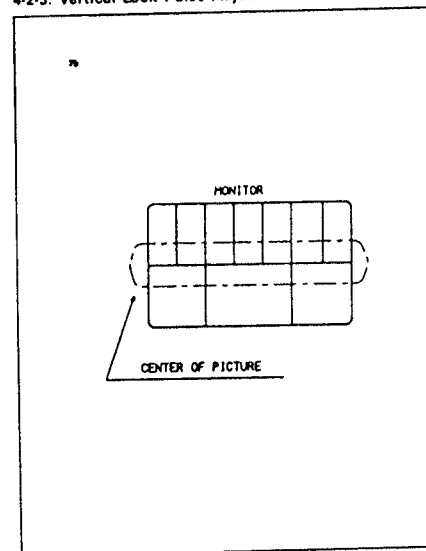

Fig. 6 Vertical Lock Pulse
- 5) Adjust the V-Lock Control VR702 so that the center of picture is most stable. (Fig. 6).